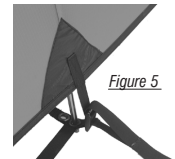

Figure 5
- Attach the side-release buckles at the base of the flysheet to the corresponding 'mate' on the pole anchor straps of the inner tent (figure 5).